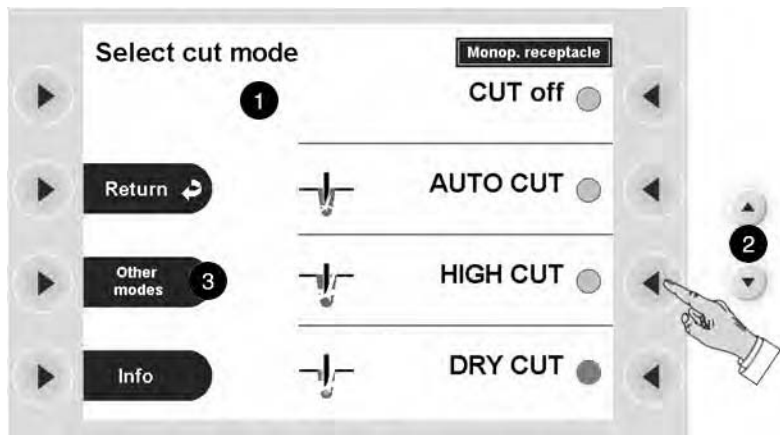

Fig. 5-9
You will then move to the *Select CUT Mode* window (Fig. 5-9). On the right you will see a selection list of CUT Modes (1).
1. If you press the Up/Down button (2), the window scrolls in the selection list. The active CUT Mode is marked in green. To change to other modes (if available), you can also press the Select button next to the "Other modes" menu item (3). You will then change to the next window in which the selection list is continued. When you have reached the end of the selection list by pressing the Select button, the next time you press the Select button, you will return to the start of the selection list.